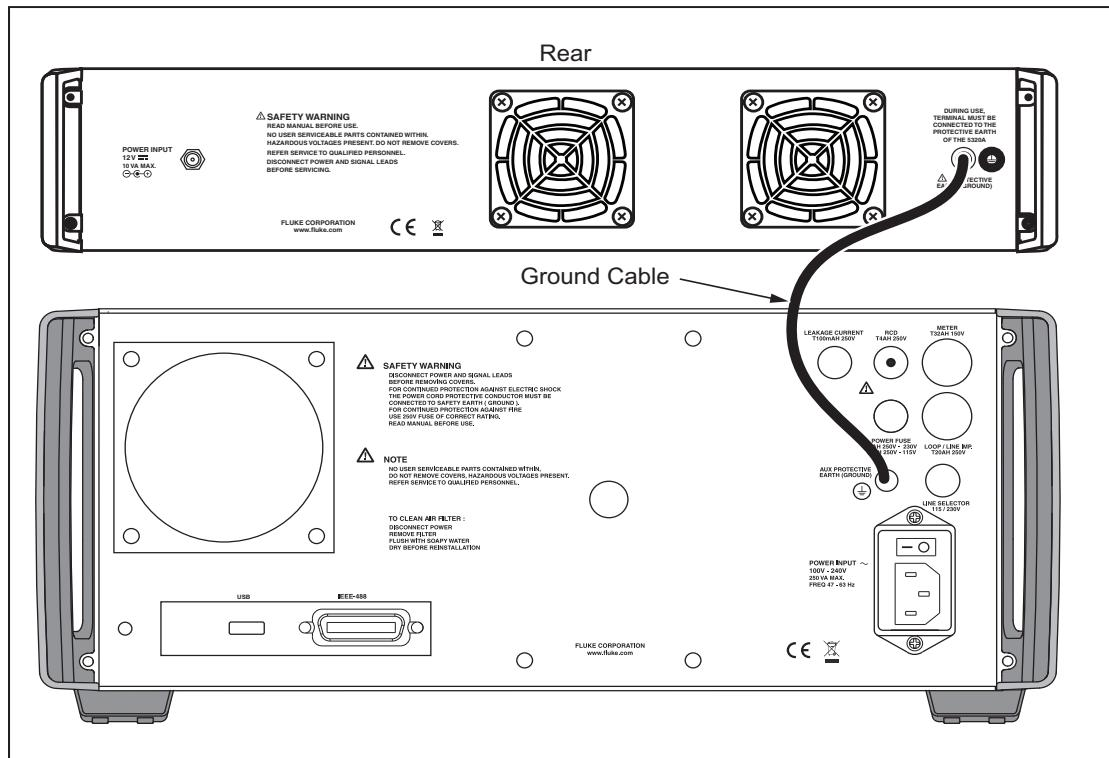

Figure 3. Grounding Cable Connection
3. Once you place the Product on top of the Calibrator, connect the grounding cable between the Product's rear-panel ground terminal and the rear-panel ground terminal of the Calibrator. See the grounding cable connection in Figure 3 where the rear of the Product is shown.